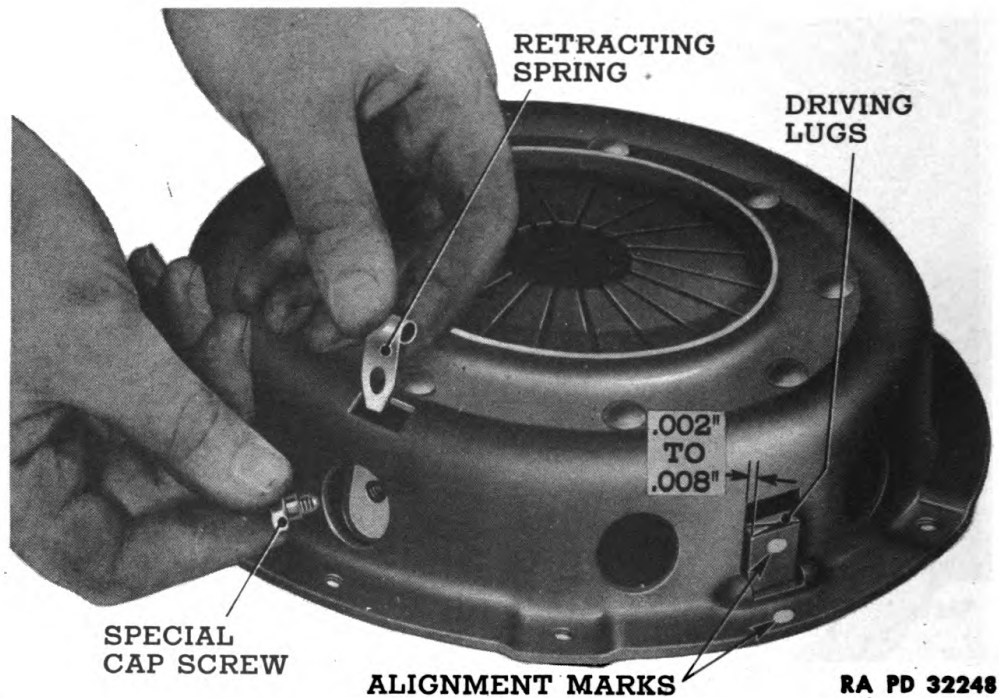

Figure 35—Retracting Spring Removal
(4) **DISASSEMBLE COVER** (fig. 35). Remove the three clutch pressure plate retracting springs, and remove the pressure plate from the clutch cover assembly. The clutch cover, diaphragm spring, and two pivot rings are riveted together and serviced as an assembly.
(3) Check the three pressure plate drive lugs for excessive wear or burrs. Check their fit in the cover. They should have from 0.002-inch to 0.009-inch clearance (fig. 35).
(4) Check the throwout bearing for roughness and free fit on the extension of the transmission main drive gear bearing retainer. **CAUTION:** *This is a permanently lubricated bearing, and must not be washed in dry-cleaning solvent.*
(1) **ASSEMBLE CLUTCH COVER.** Install the pressure plate in the cover assembly, making sure to mate the "O" mark on the pressure plate lug with the "O" mark on the cover (fig. 35). This is necessary to maintain proper balance. Install the three pressure plate retracting springs. The clutch is now ready to be reassembled to the engine.